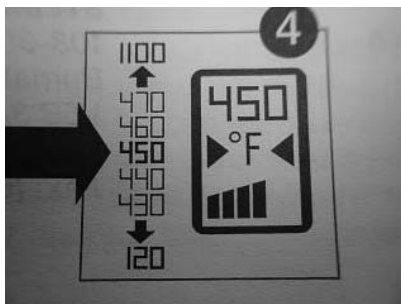

Fig. 3b - LCD Display for Temperature and Air Flow
- The Steinel Heat Gun, Model HG3002LCD, shown in figure 2, is a calibrated heat gun which has all the features required to work with a SMD part in the laboratory environment. The temperature setting wheel (figure 3a) enables setting the temperature of the air blown by the heat gun. The set temperature is displayed on an LCD panel (figure 3b), which also displays vertical bars to indicate airflow. Airflow can be set with the airflow control knob as shown in figure 3c. The on/off controls switch in figure 3d enables heat gun operation with controlled airflow at a preset temperature.